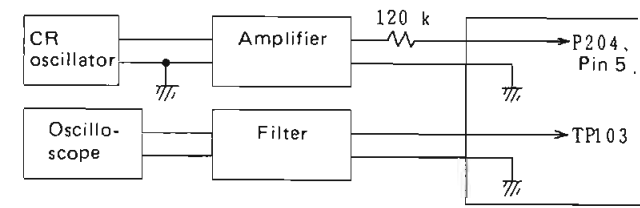

Fig. 57
2. Connect the oscillator and oscilloscope as shown fig. 57.